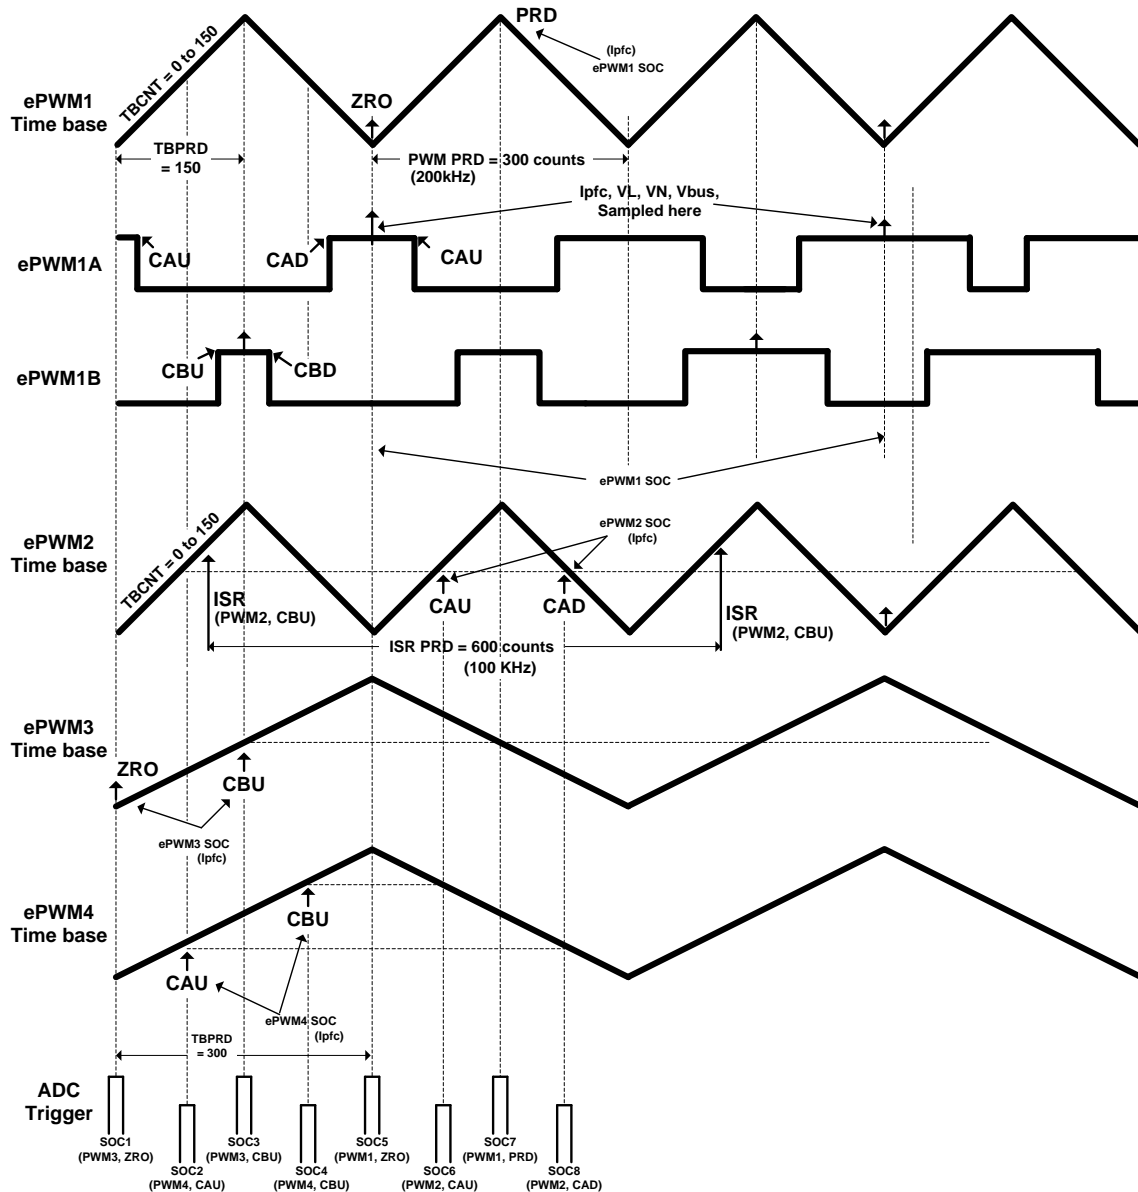

Figure 3.1.2. PWM generation and ADC sampling
The PWM signals are generated at a frequency of 200 kHz i.e. a period of 5 μ s. With the controller operating at 60MHz, one count of the time base counter of ePWM1 corresponds to 16.6667ns. This implies a PWM period of 5 μ s is equivalent to 300 counts of the time base counter (TBCNT1). The ePWM1 module is configured to operate in up-down count mode as shown in Fig 3.1.2. This means a time base period value of 150 (period register value) will give a total PWM period value of 300 counts (i.e. 5 μ s).
PFC total inductor current is sampled at the midpoint of the PWM ON pulse since the sampled value represents the average inductor current under CCM (continuous conduction mode) condition. Under DCM condition the sampled current value also represents an approximate average inductor current because of the oversampling action. PFC inductor current is also oversampled 8 times during each 10 μ s time period when both the PFC switches turn on once in their respective 5 μ s time slot (200kHz PWM). These 8 sampled values are then used to calculate the average PFC inductor current. This is illustrated in Fig 3.1.2.
The voltage signal conversions are also initiated when the PFC switch is on. This is indicated in Fig 3.1.2. The flexibility of ADC and PWM modules on C2000 devices allow for precise and flexible ADC start of conversions. In this case the time base counters (TBCNTx) of ePWM1~ePWM4 are used as 4 time bases to generate all the start of conversion (SOC) triggers. Fig 3.1.2 shows 8 SOC triggers are generated when (1) TBCNT1 reaches zero and period, (2) TBCNT2 reaches the preset CMPA values during up and down count, (3) TBCNT3 reaches zero and preset CMPB value during up count and, (4) TBCNT4 reaches preset CMPA and CMPB values during up count.
Fig 3.1.2 also shows the PWM outputs generated using ePWM1 module. PFC current is converted, averaged and then saved as *Ipfc* for PFC current loop control.
PWM compare shadow registers are updated. These are loaded into the active register at the next TBCNT1 = ZERO event. Note that the ISR trigger frequency is half that of the PWM switching frequency as shown in Fig 3.1.2.